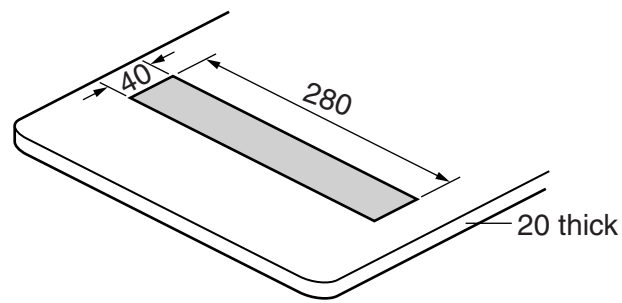

**Fig. 7**
- 11 Fig. 7 shows views of a small table that includes a magazine rack. The product is designed as flat-pack for self-assembly.
(c) Use sketches and notes to show how the stand could be joined permanently to the table top as shown in Fig. 7.